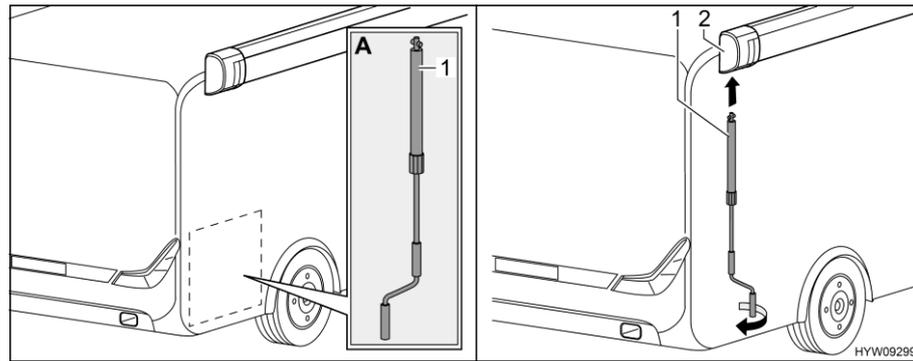

Fig. 14 Installing crank
- Take crank (Fig. 14,1) out of the rear garage (Fig. 14,A).
- Insert crank into bayonet socket (Fig. 14,2) of the awning.